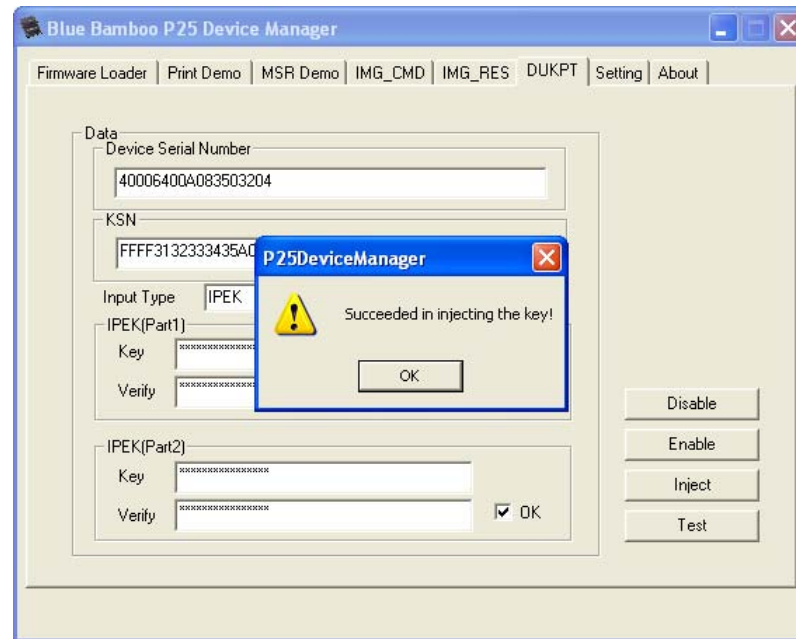

Figure 53
- d. Success message will be displayed as shown in Figure 53